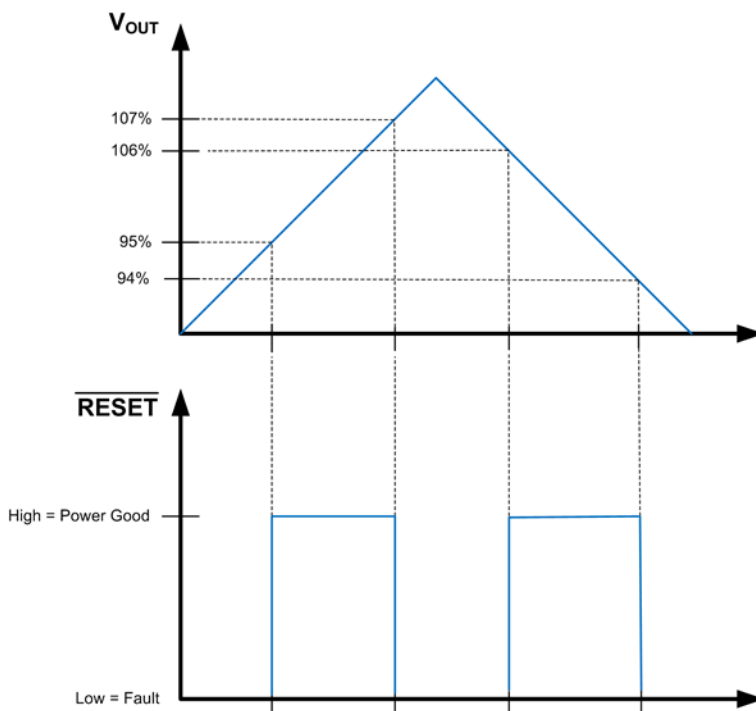
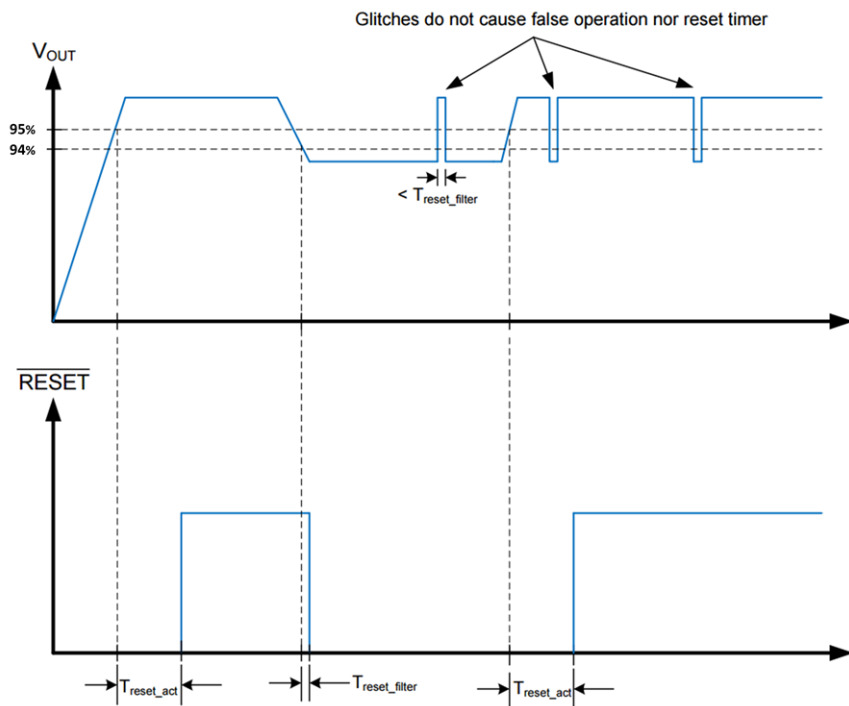

Figure 10. Static  $\overline{\text{RESET}}$  Operation
Figure 11.  $\overline{\text{RESET}}$  Timing Behavior
- A delay has been added between the point at which the output voltage is within specified limits and the flag asserts Power Good. A glitch filter prevents false flag operation for short excursions in the output voltage, such as during line and load transients. See Figure 11 and Figure 12 for more detail.
Because the  $\overline{\text{RESET}}$  comparator and the regulation loop share the same reference, the thresholds track with the output voltage. When EN is pulled low, the  $\overline{\text{RESET}}$  flag output is forced low. When the device is disabled,  $\overline{\text{RESET}}$  remains valid as long as the input voltage is  $\geq 1.5$  V.  $\overline{\text{RESET}}$  operation can best be understood by reference to Figure 10 and Figure 11. Output voltage excursions lasting less than  $T_{\text{RESET-filter}}$  do not trip  $\overline{\text{RESET}}$ . Once the output voltage is within the prescribed limits, a delay of  $T_{\text{RESET-act}}$  is imposed before  $\overline{\text{RESET}}$  goes high. This enables tighter tolerance than is possible with an external supervisor device while also expanding the system allowance for transient response without the need for extremely accurate internal circuitry.